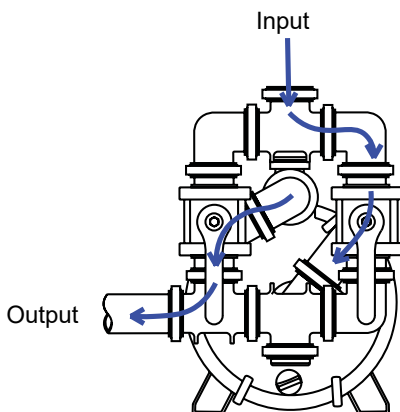

Fig. 2 (Draw Position)
In order to fill the tank (draw position) the valve handles must be set in the downward position, (Fig. 2).
6. Move the flow valves to the DRAW position (Fig. 2).